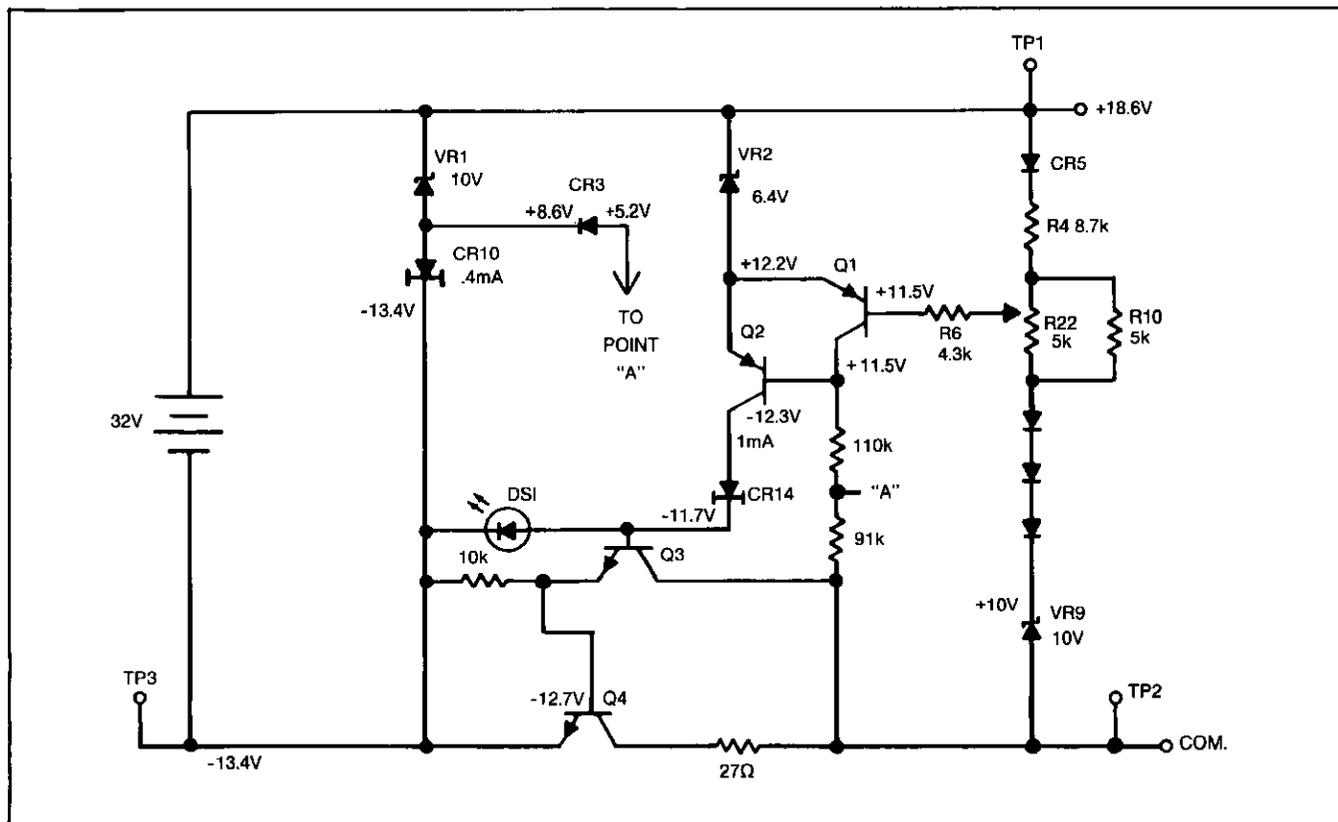

Figure 4-10. A4 Regulator (Simplified Diagram)
1. Refer to Figure 4-10, a simplified drawing of the A4 Regulator.